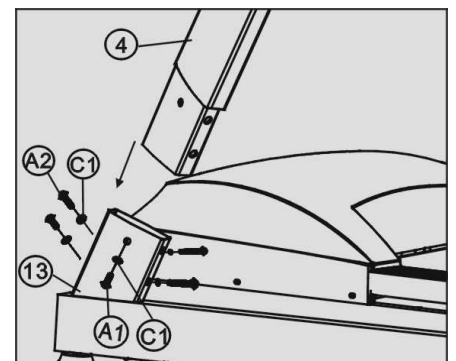

Figure 1
Insert Left upright tube (4) to base frame (13), and attach four Half-round bolts M8X16 (A2), one Half-round bolt M8X40 (A1), and five Flat washers  $\phi$ 8 (C1), Do not tighten all parts provisionally (see figure 1)